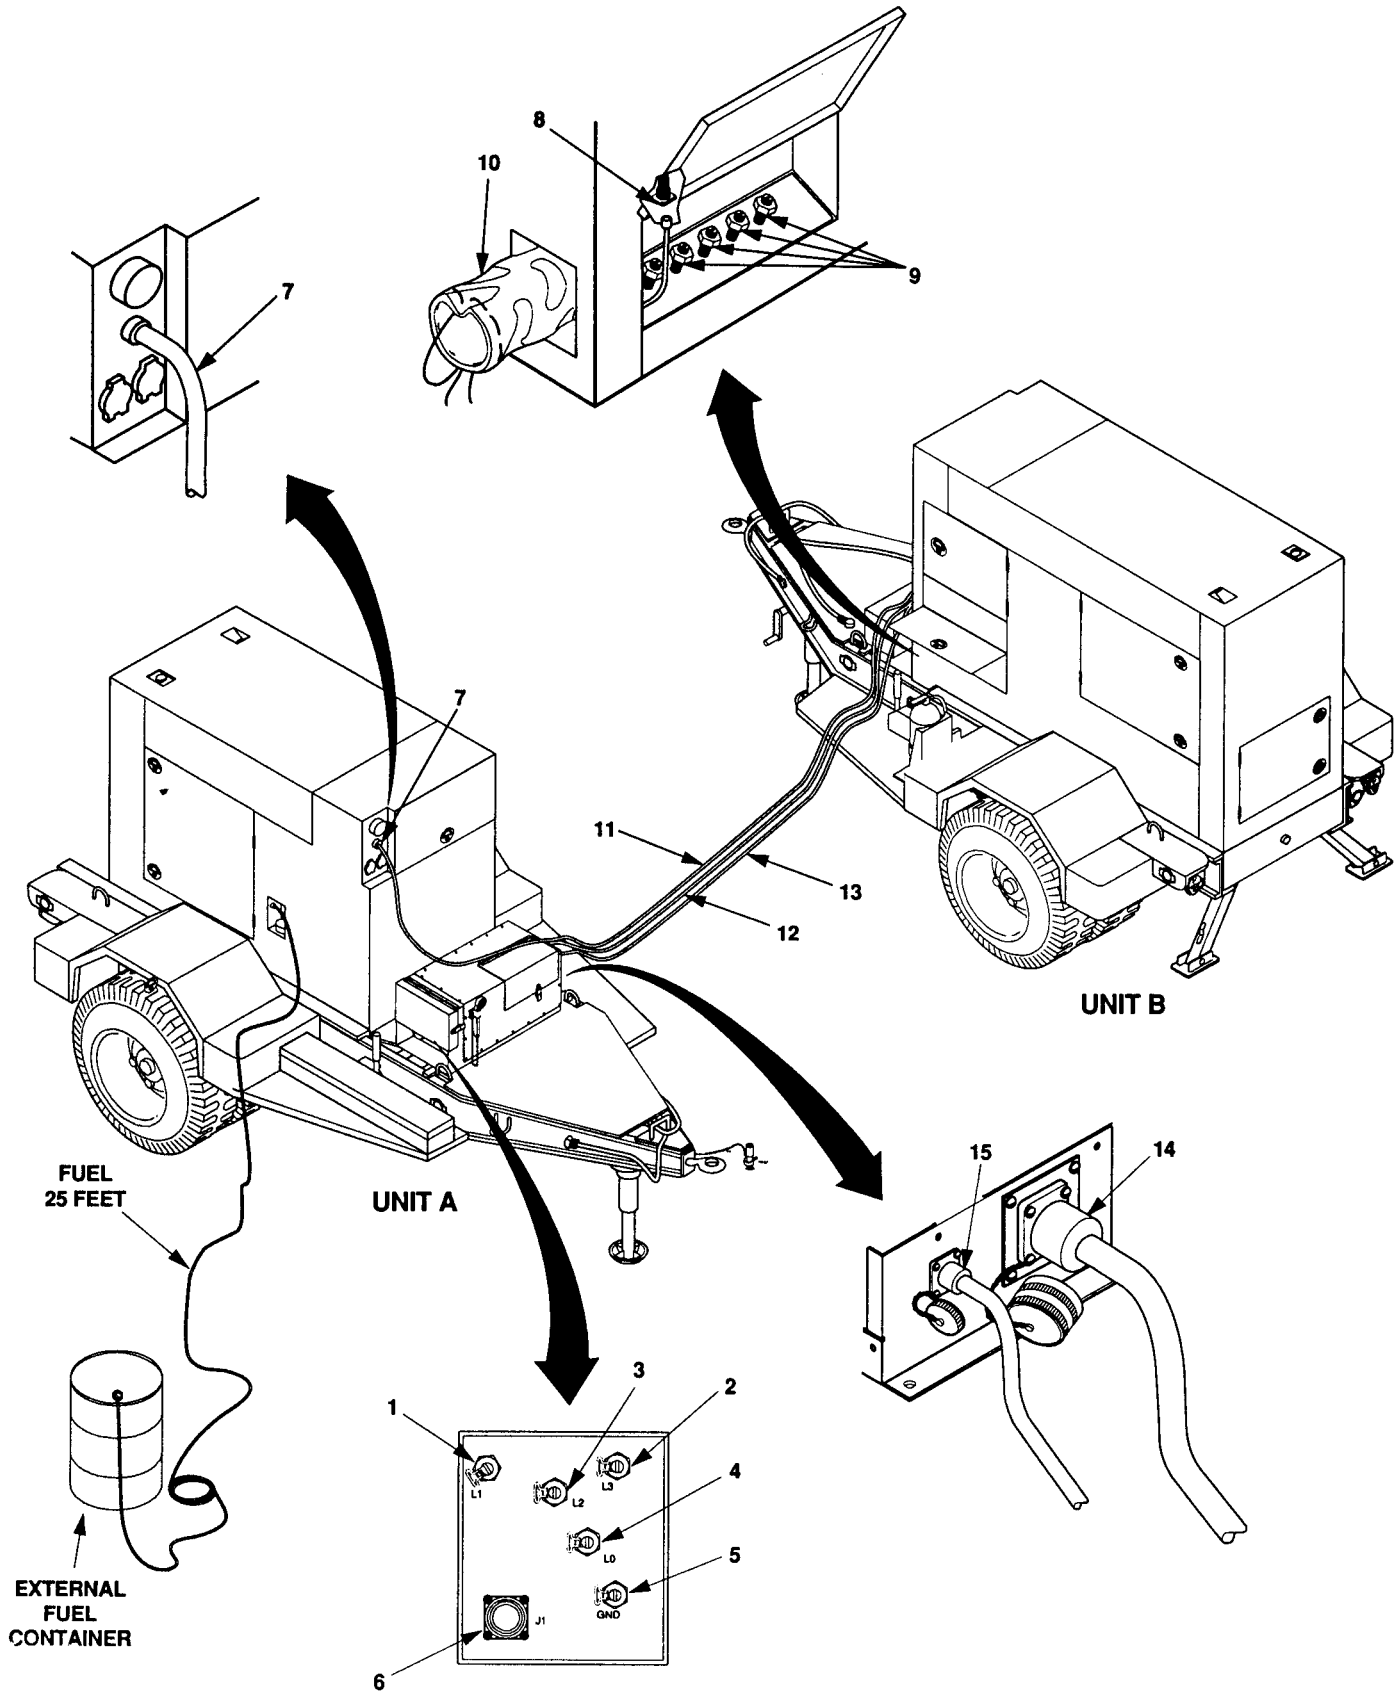

Figure 2-15. Disconnection of Power Plant.
2-7-2.2 Power Plant. Load may be connected to the switch box (figure 2-15) by either of two methods. One method is to connect the load cable to the J1 connector (6). The other method is to connect load cables to the load terminals (1, 2, 3, 4, and 5). Disconnect the load cable using the appropriate method. Disconnect unit A from unit B as follows:
- a. Disconnect power cable (12) as follows:
- (1) Disconnect leads from load terminals (9) and remove from power cable sock (10).
- (2) Disconnect plug end of power cable (12) from connector J2 (14).